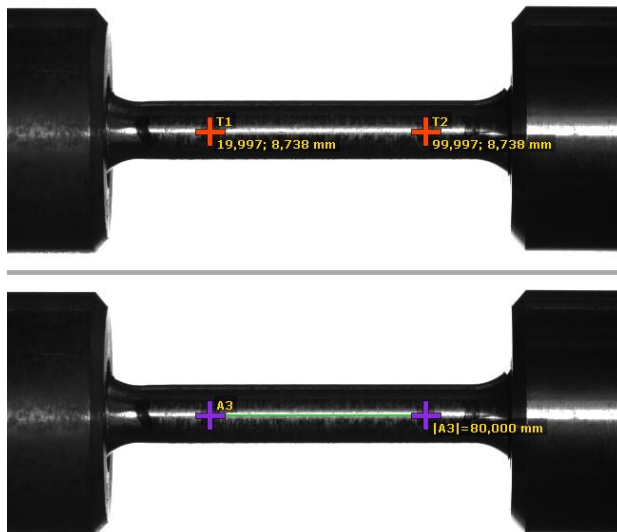

Figure 41: Probe pairing.
- **Pair Probes** – Creates an extension line by pairing two **point probes** as shown in Figure 41. To perform this operation, press the **Pair Probes** button and select two **point probes** by **left-click**. Please note, that this will not create a line if the total count of extension lines in the corresponding **camera view** would exceed the licensing limits.